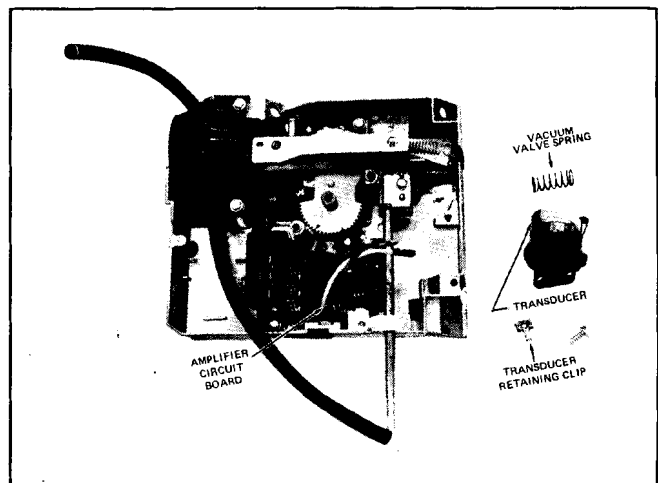

Fig. 1B-56 Vacuum Transducer Removed
4. To replace, reverse removal procedure. Refer to Figs. 1B-55 and 1B-56.